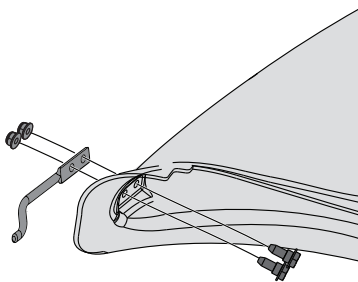

Figure 16
- From the inside, put the two hex head screws (738-1225), from bagger boot hardware pack (689-02199), through the holes at the bottom front of the boot. See Figure 16.
- Put the mounting rod (747-06309) in place over the hex head screws. Make sure the tip of the rod is facing out from the boot. See Figure 16.
- Begin threading the flange lock nuts (712-04064) onto the hex head screws. See Figure 16.